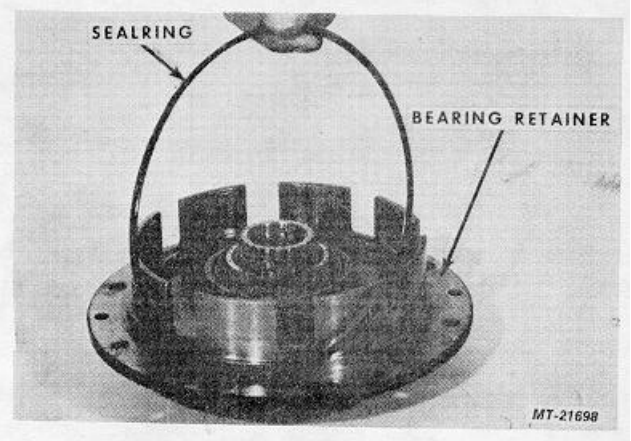

Fig. 6
3. Remove Sealing and discard, Fig. 6.